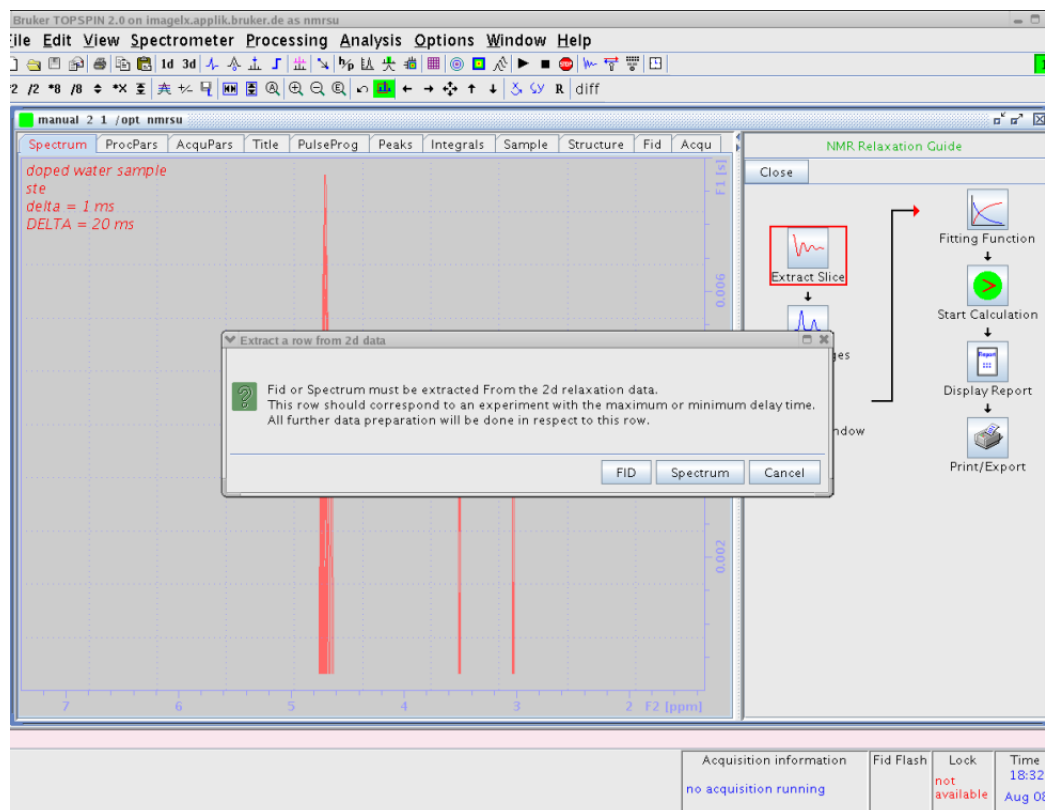

Figure 3.8 Pseudo 2D Spectrum with **NMR Relaxation Guide** 1. step
3. Begin the processing by clicking the icons in the guide sequentially and follow the advice given. When you select the first icon, **Extract Slice**, a section pop-up window as shown in Figure 3.8 will appear.